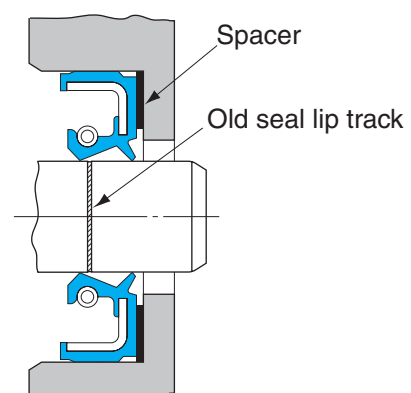

Fig. 1.7.11 Avoid old seal lip track
9) When oil seal is removed, use a new oil seal instead of the seal used. Contact position of new seal lip on the shaft should be displaced to 0.5 mm (1~2 mm for large-size seals) from the old seal lip contact position by applying spacer as illustrated bellow (Fig. 1.7.11).